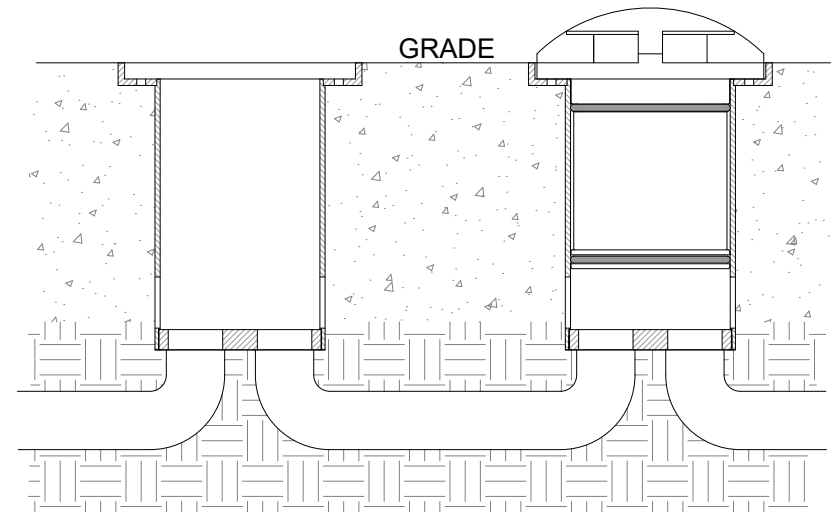

Figure 4
2. Pour concrete around Housing, being sure to keep concrete from falling into Housing. **The top edge of the brass Concrete Ring must be flush with the finished surface (Figure 4).**